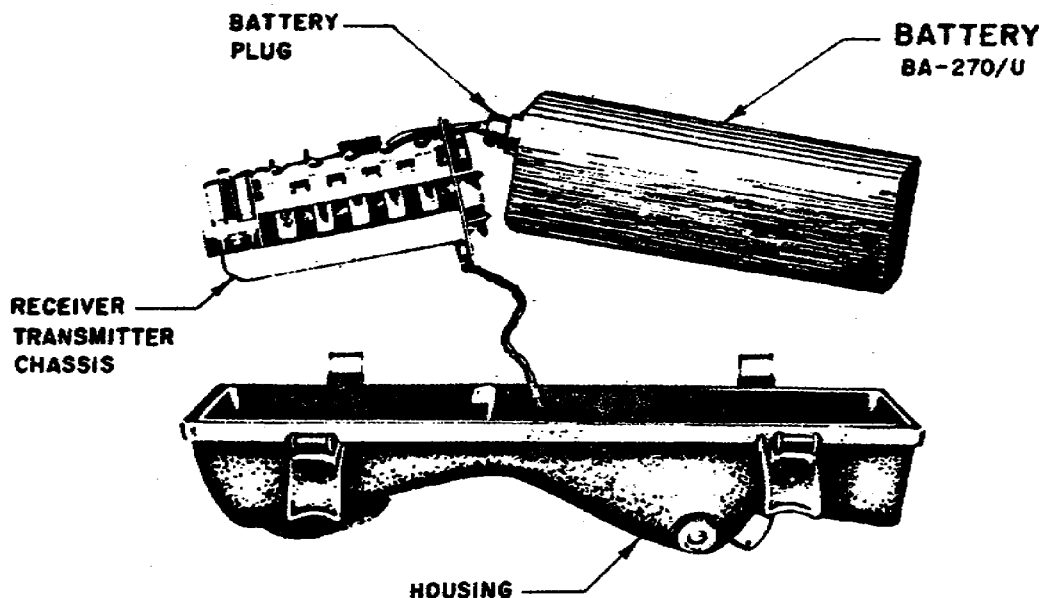

Figure 7. The battery power supply used in the AN/PRC-6.
- (1) Battery.
- (2) Rectifier.
- (3) Vibrator.
- (4) Dynamotor.
- (5) Hand-driven generator.
a. Battery power supplies or battery power packs, as they're called, are most generally used to furnish energy to small portable transceivers. The AN/PRC-6, -8, -9 and -10 are good examples of battery-operated equipment. The battery power supply in the AN/PRC-6 is shown in figure 7.